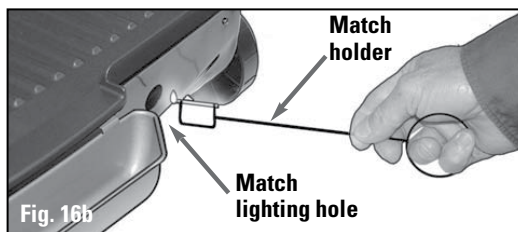

Fig. 16b
- 3) Insert a lit match on the match holder through the match lighting hole at the front, right side of the grill (FIG 16B)